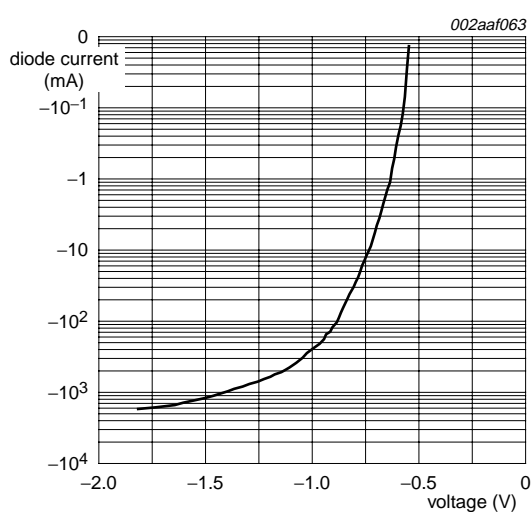

Fig 21. Diode characteristic curve
Figure 21 shows the measured characteristic for one of those diodes inside P82B96. The plot was made using a curve tracer that applies 50 Hz mains voltage via a series resistor, so the pulse durations are long duration (several milliseconds) and are reaching peaks of over 2 A when more than -1.5 V is applied. The IC becomes very hot during this testing but it was not damaged. Whenever there is current flowing in any of these diodes it is possible that there can be faulty operation of any IC. For that reason we put a specification on the negative voltage that is allowed to be applied. It is selected so that, at the highest allowed junction temperature, there will be a big safety factor that guarantees the diode will not conduct and then we do not need to make any 100 % production tests to guarantee the published specification.
For the P82B96, in specific applications, there will always be transient overshoot and ringing on the wiring that can cause these diodes to conduct. Therefore we designed the IC to withstand those transients and as a part of the qualification procedure we made tests, using DC currents to more than twice the normal bus sink currents, to be sure that the IC was not affected by those currents. For example, the Tx/Ty and Rx/Ry pins were tested to at least -80 mA which, from Figure 21, would be more than -0.8 V. The correct functioning of the P82B96 is not affected even by those large currents. The Absolute Maximum (DC) ratings are not intended to apply to transients but to steady state conditions. This explains why you will never see any problems in practice even if, during transients, more than -0.3 V is applied to the bus interface pins of P82B96.
Figure 21 “Diode characteristic curve” also explains how the general Absolute Maximum DC specification was selected. The current at 25 °C is near zero at -0.55 V. The P82B96 is allowed to operate with $+125$ °C junction and that would cause this diode voltage to decrease by $100 \times 2 \text{ mV} = 200 \text{ mV}$. So for zero current we need to specify -0.35 V and we publish -0.3 V just to have some extra margin.